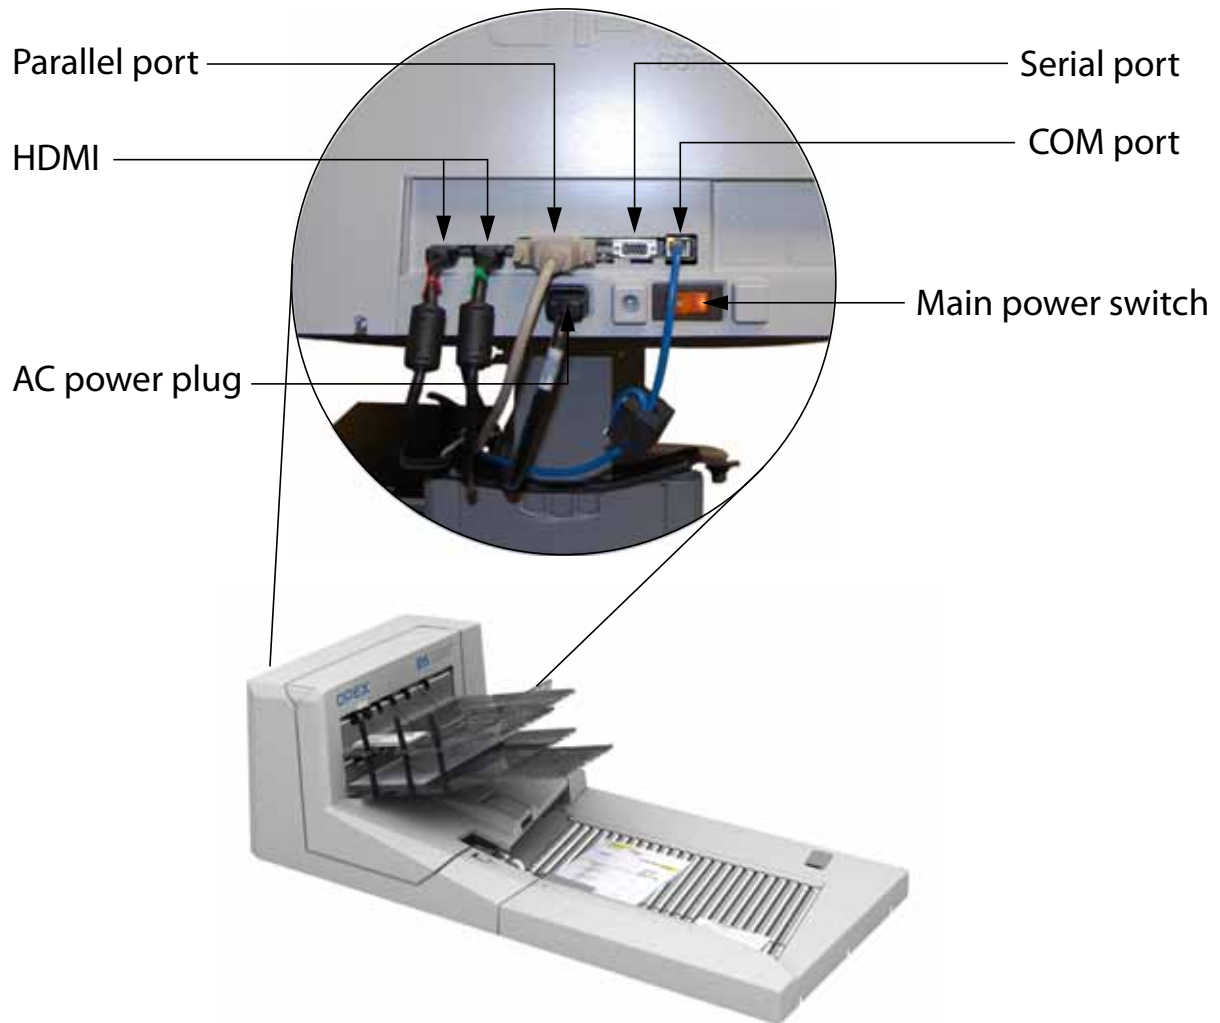

Figure 2: DS2200 back panel connections
- 1 Turn on the main power switch (see Figure 2).